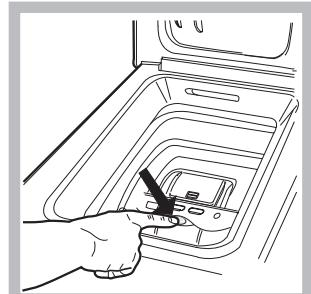

Fig. 2
With one finger, push the button indicated in fig. 2 and the drum will open delicately.
E) Drum End Stop (Fig. 2):